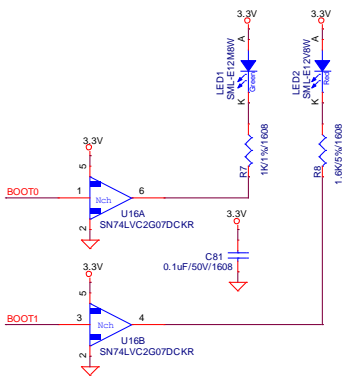

Figure 2-7 Example of using the LED that shows the TX/RX status of R9A06G061
- Figure 2-7 shows an example of using the LED that shows the transmission / reception status of R9A06G061.